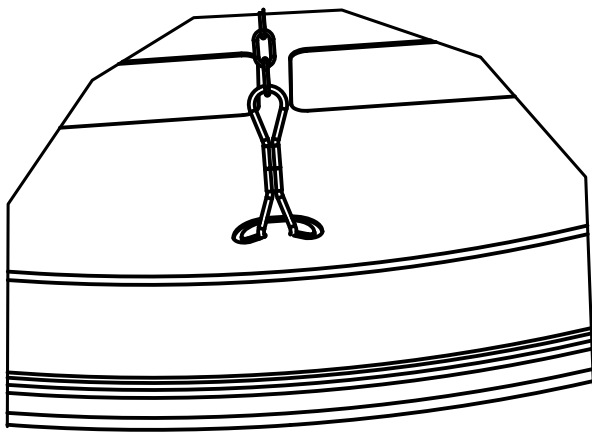

FIGURE 4
Attachment: Figure 4, insert cable loop into each of (3) "C" shaped cutouts at equal spacing. The opposite end of the (3) chain/cables (Chain Shown) are slipped onto the Snap Hook as shown in figure 5. The Fixture can then be attached with the snap hook to a maximum $\frac{3}{8}$ " Eye Bolt (Not Supplied).